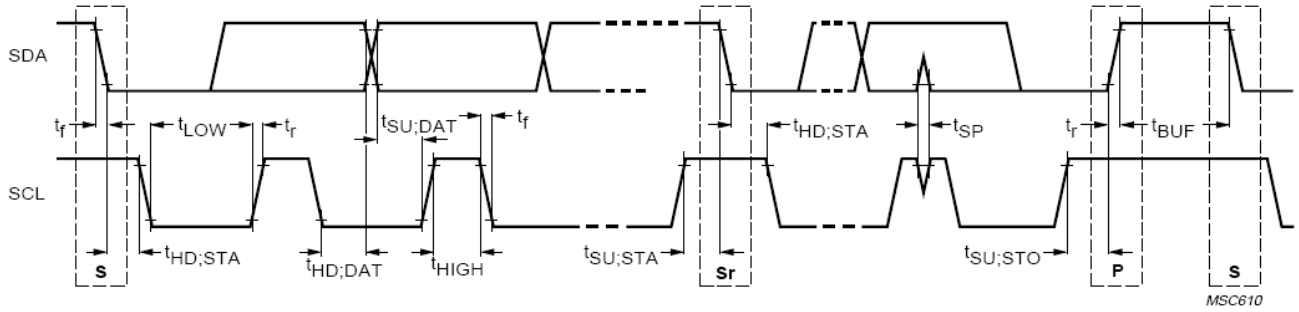

Figure 3. AC Characteristics
5. Refer to Figure 3 for more information on AC characteristics